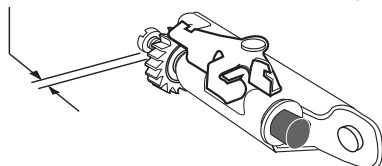

Fig. 24 Setting Adjuster Screw
CAUTION Be sure that the adjusting screw is screwed into the star wheel nut until only 1 - 2 threads are exposed (Ref Fig. 24). If the brake shoes are replaced, replace the three brake springs and the adjuster components.
9. The adjusting screw must be screwed into the star wheel nut until only 1 - 2 threads are exposed (Ref Fig. 24).